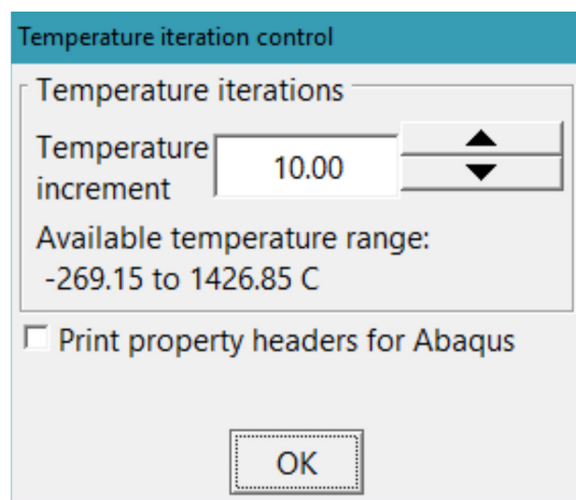

Figure 2.
- d) The window shown in Figure 2 will pop-up and you can select the temperature increment for the data to be written. Make sure that the “Print property headers for ABAQUS” is not checked. This option is only used if you want to paste the data directly into your job.inp file from a text editor and you are not using CAE to create and edit your materials. Click “OK”.